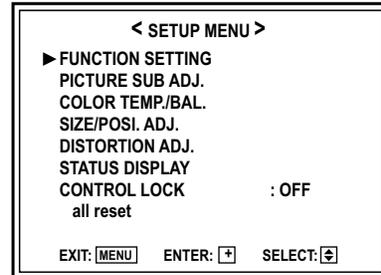
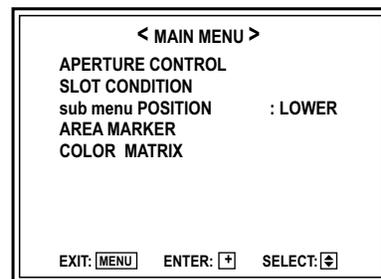

Fig. 1
Fig. 2
- (1) Disconnect the wire clamps and connectors as required.
- (2) Remove the two screws [12] and pull the CHASSIS BASE toward the front to remove it.
- (3) While disengaging the claw [D] on the CHASSIS BASE that is engaged with the rear of the SPEAKER, lift the SPEAKER to remove it (see Fig. 2).
- (4) Remove the three screws [13] and then remove the PB BRACKET.
- (5) Unplug the S. CORRECTION PWB from the connector on the MAIN PWB.
- (1) While holding down the  $\blacktriangledown$  key, press the **VOL -** ( $\blacktriangleleft$ ) key.
- (2) The SETUP MENU appears (Fig. 1).
- (3) Check the items in the SETUP MENU by comparing them with the data in the table on page 1-10. If any item is set differently, set it as required.
5. Check the MAIN MENU and set its items as required. Press the **[MENU]** key to display the MAIN MENU (Fig. 2). Check the items in the MAIN MENU by comparing them with the data in the table on page 1-11. If any item is set differently, set it as required.